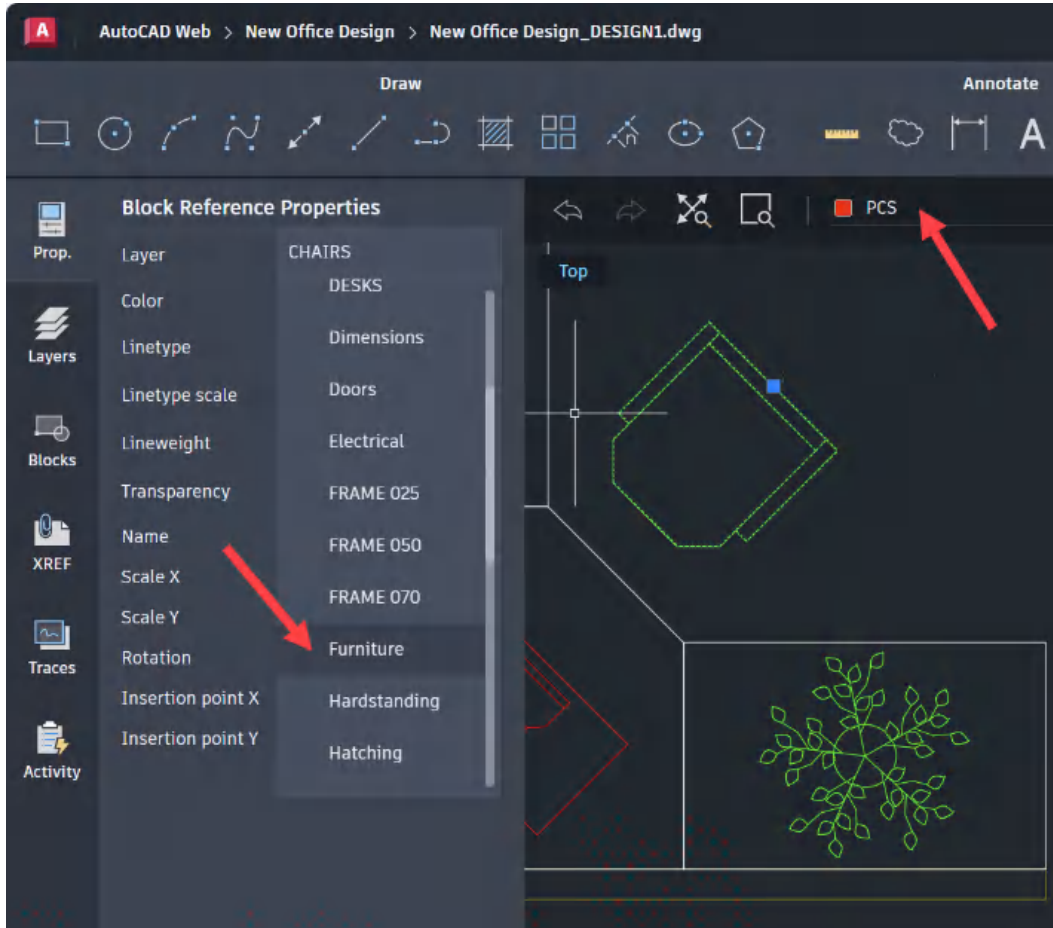

Figure 13.10: The Layer dropdown in the Properties tab
2. Click on the **Layer** dropdown and select the **Furniture** layer, as shown in *Figure 13.10*. Note that there is another **Layer** dropdown above the drawing area (also arrowed). That can be used to set the current layer, which is **PCS** in this case. Make sure you use the **Layer** dropdown in the **Properties** tab.